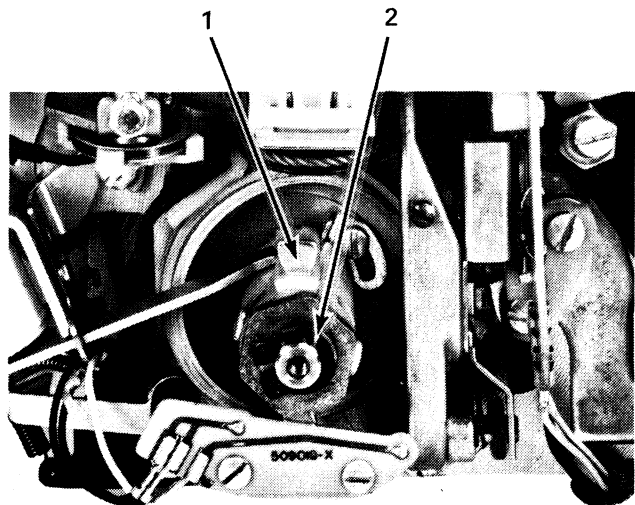

Figure 4-46. Shift Clutch Removal (Right Side of Printer)
1. Rotate the sleeve so that the shunts (No. 1, Figure 4-46) are parallel to the shift feedback switch circuit board.
2. Remove the grip clip from the operational shaft (No. 2, Figure 4-46).